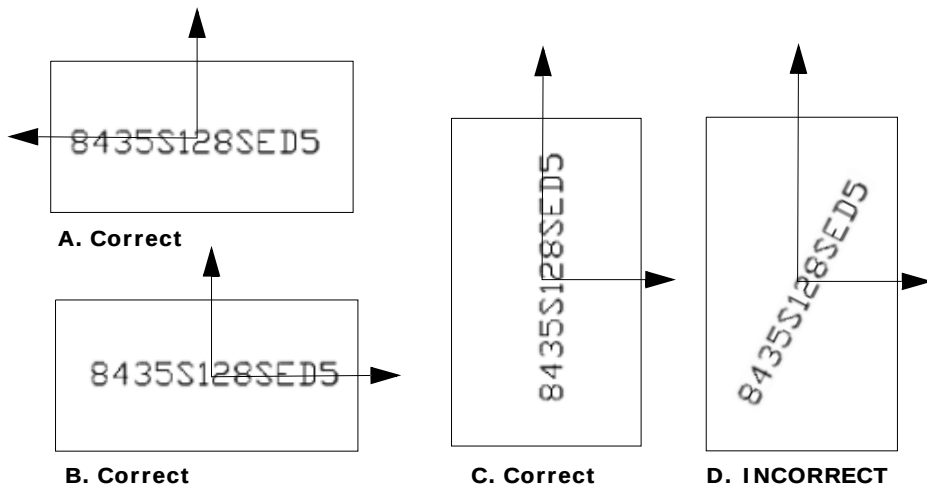

Figure 433 Correct Positioning of OCR Fixed Font Tool
- The Rectangle must be positioned so that its axes are orthogonal to the character string. Figure 433 shows examples of correct positioning (A, B and C) and incorrect positioning (D). Depending on the configuration of the tool, it can be possible to decode